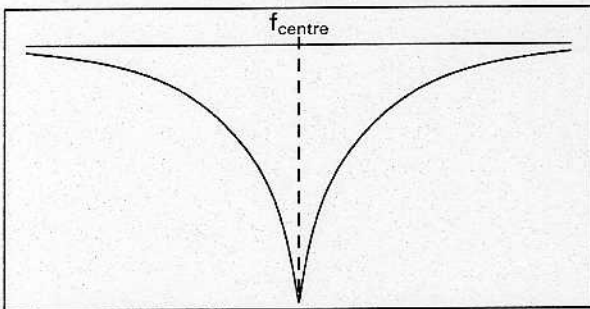

Fig. 14
- b) Ensure that the frequency span on the network analyser is set to no more than 10 MHz. Limit the drive power to the IOT to 30 W maximum. A lower drive power is acceptable. Tune the input cavity by adjusting the position of the lower of the two rings on the outside of the input cavity (marked 'frequency adjustment') while observing the reflected power from the input cavity on the network analyser, to produce a response with maximum absorption at channel centre frequency, Fig. 14 shows the response which will be obtained if the matching ring (marked 'impedance adjustment') is in the optimum position.
- c) Apply a low amplitude (white level) sweep to the input of the IOT and tune the input cavity by adjusting the position of the lower of the two rings on the outside of the input cavity (marked 'frequency adjustment') while observing the reflected power from the input cavity on the spectrum analyser, to produce a response with maximum absorption at channel centre frequency. Fig. 14 shows the response which will be obtained if the matching ring (marked 'impedance adjustment') is in the optimum position.